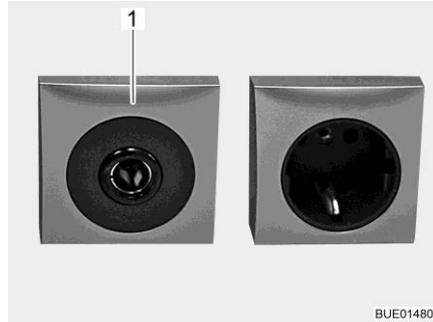

Fig. 96 12 V/10 A socket
- ▷ Only connect devices with a maximum of 10 A to the sockets (Fig. 96,1) of the 12 V power supply.